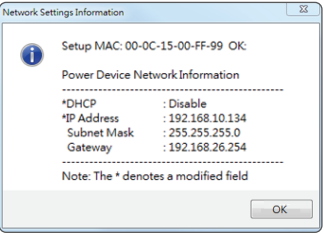

Figure 4. Setup IP Address successfully message.
- 8. If the IP address change is successful, you will see a message confirming the IP set up is OK, as shown in Figure 4.